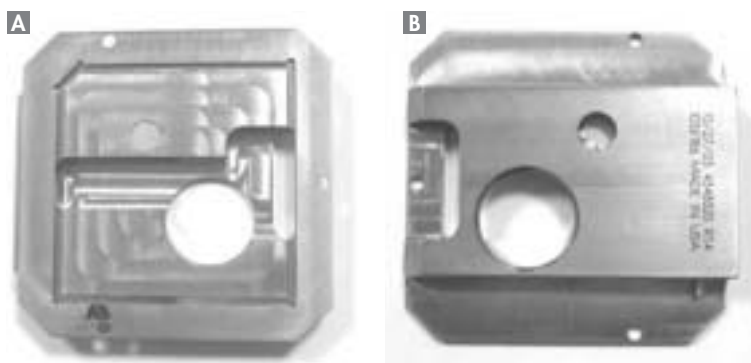

Figure 7 A Front and B reverse side of Opti-TOF Holder for QSTAR and Voyager System.
1. Insert Mass-Spec-Turbo Chip into the chip holder (see Figure 7).